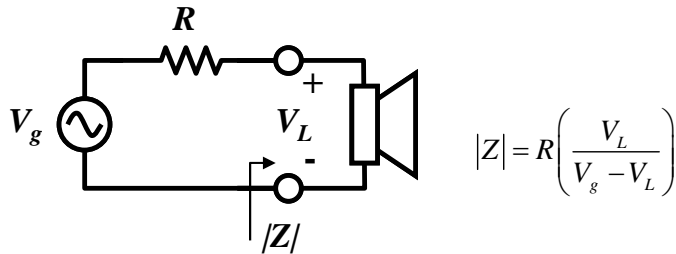

Figure 1-6 – Speaker test circuit
- Electrically connect your speaker to the function generator as shown in Figure 1-6, using a small resistor R in series with the speaker (something around $50\ \Omega$, or two $100\ \Omega$ resistors in parallel, seems to work well). This creates a voltage divider,
so that the voltage across the speaker is proportional to the magnitude of its impedance. Thus by measuring V_g and V_L we can map out the variation of impedance with frequency using the formula in Figure 1-6.